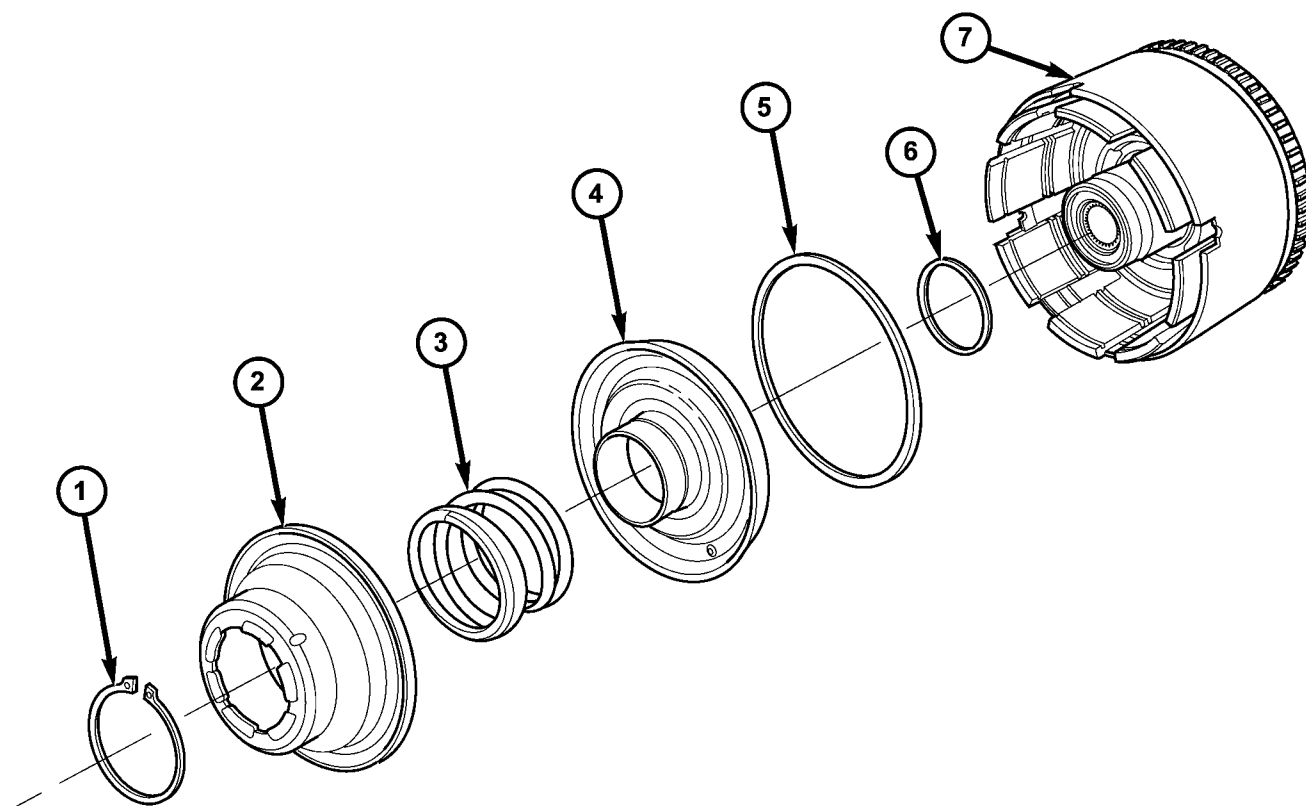

Fig. 205 Underdrive Clutch Piston, Spring and Retainer
(13) Using Tool 5059A and an arbor press, compress UD clutch piston/spring enough to remove snap ring (Fig. 204) (Fig. 205).
(14) Remove spring retainer, spring, and piston (Fig. 205).